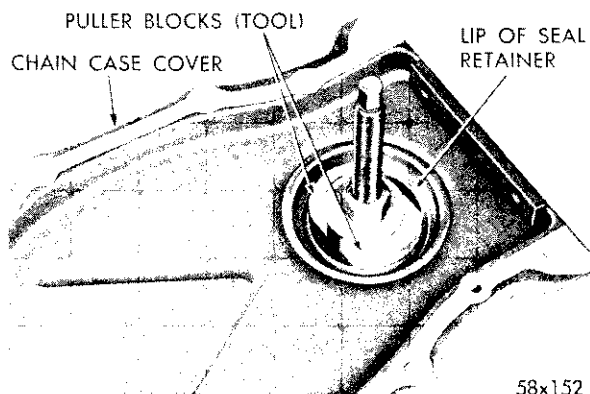

Fig. 26—Removing Timing Chain Case Cover Oil Seal Using Tool C-3506
(1) Position puller screw of Tool C-3506 through case cover, the inside of case cover up. Position the puller blocks directly opposite each other, and force the angular lip between neoprene and flange of the seal retainer.
(2) Place washer and nut on puller screw. Tighten the nut as tight as possible by hand, forcing blocks into gap to a point of distorting the seal retainer lip (Figure 26). This is important (puller is only positioned at this point).
(3) Place sleeve over the retainer and place removing and installing plate into sleeve.